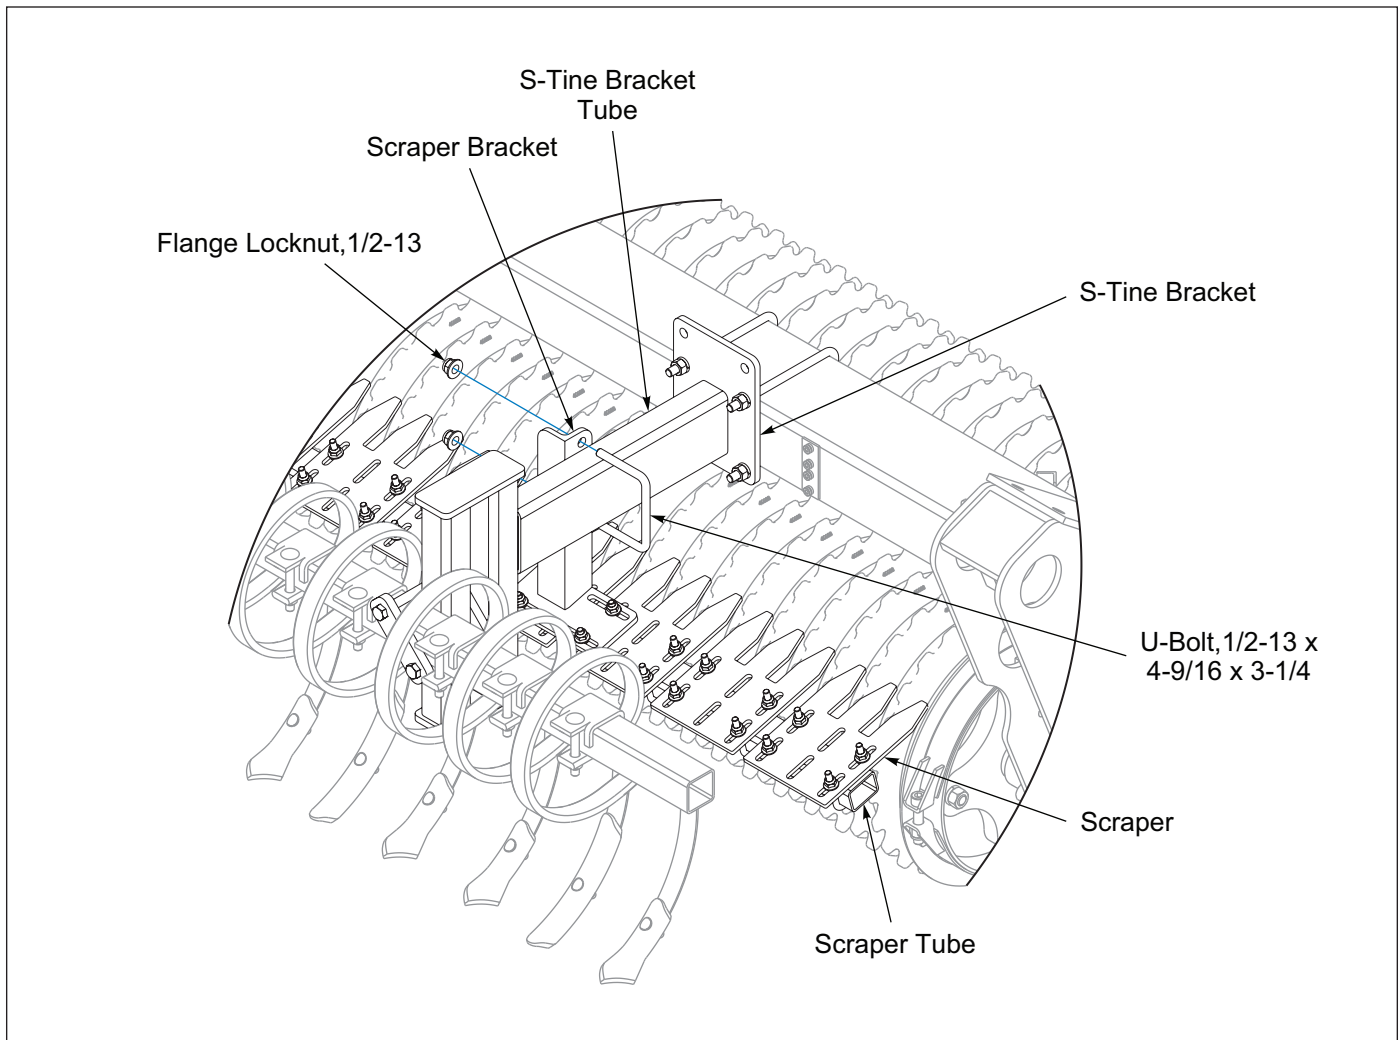

Figure 2-48: Tube Mounted Scrapers with S-Tine Tire Track Remover
S-Tine Tire Track Remover Kit can be used with Scraper Kit. Do Not mount the outer Brackets with the 4-Hole Plate to the front of the Seeder Frame Tube. Attach the outer Scraper Bracket Angle to the Tire Track Remover Kit S-Tine Bracket Tube with a 1/2-13 x 4-9/16 x 3-1/4 U-Bolt and Flange Locknuts. See Figure 2-48.
*Scraper Kit can be used with the S-Tine Tire Track Remover. Attach the outer Scraper Bracket Angle to the S-Tine Bracket Tube. Outer Scraper Kit Brackets with the 4-Hole Plate are not used. **See Figure 2-48.** It may be necessary to adjust the Scraper Brackets on the Scraper Assembly for proper positioning of the Scrapers to the Front Roller Wheels.*